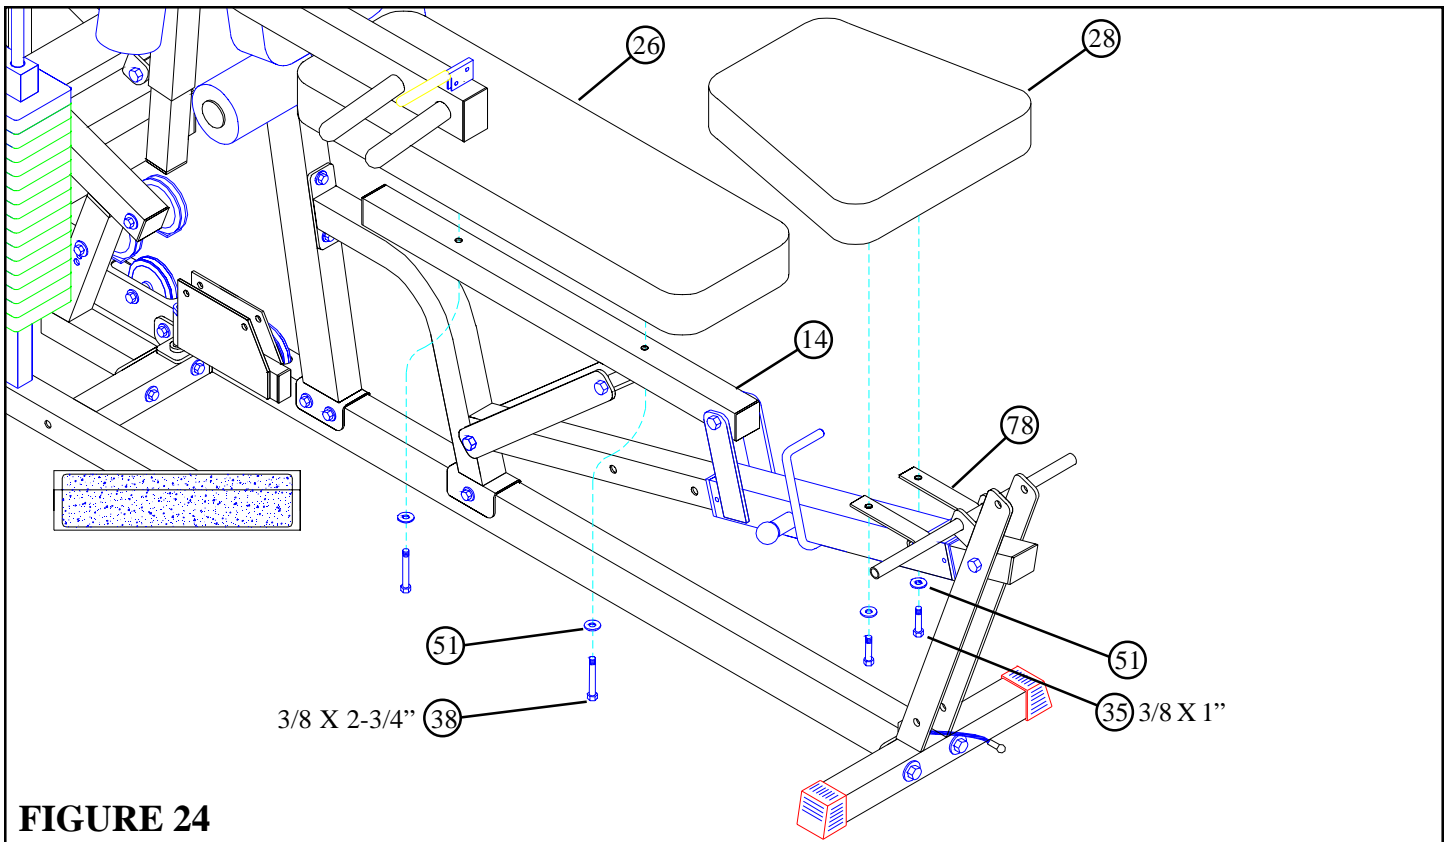

FIGURE 24
- Securely attach BACK SEAT PAD (26) to BACK PAD SUPPORT (14) using two 3/8 X 2-3/4" (38) and two 3/8" WASHERS (51).
- Securely attach LEG SEAT PAD (28) to HINGE TABS (78) using two 3/8 X 1" (35) and two 3/8" WASHERS (51) as shown in FIGURE 24.